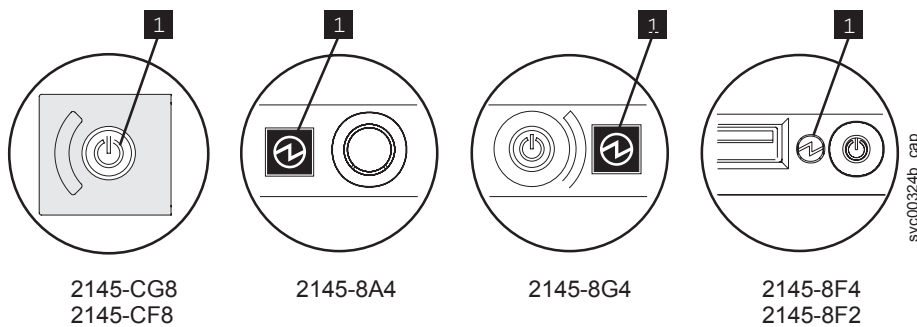

Figure 90. Power LED on the SAN Volume Controller models 2145-CG8, 2145-CF8, 2145-8A4, 2145-8G4, and 2145-8F4 or 2145-8F2 operator-information panel
1. Check the SAN Volume Controller models 2145-CG8, 2145-CF8, 2145-8A4, 2145-8G4, and 2145-8F4 or 2145-8F2 power LED ( **1** in Figure 90).